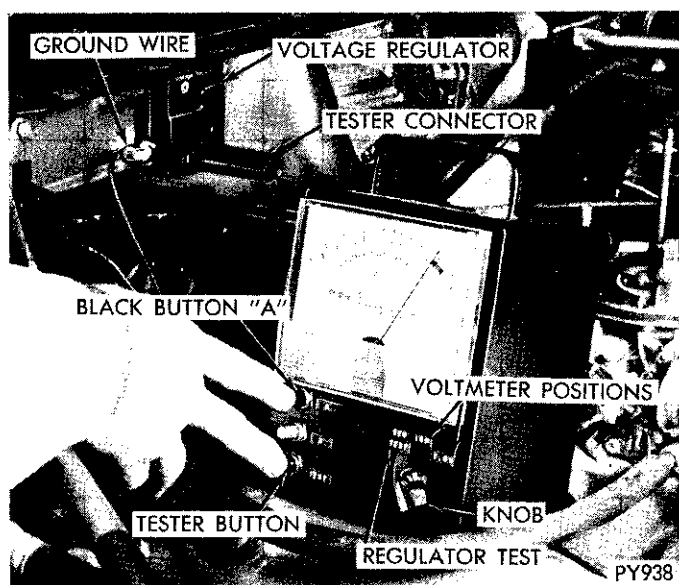

Fig. 6—Voltage Regulator Test (Depressing Test Button and Black Button "A")
regulator (at voltage regulator mounting screws Figs. 6 and 7).
(7) While holding the test button in, depress **Black Button (A)** (Fig. 6), the meter reading should remain within the limits of step 6.